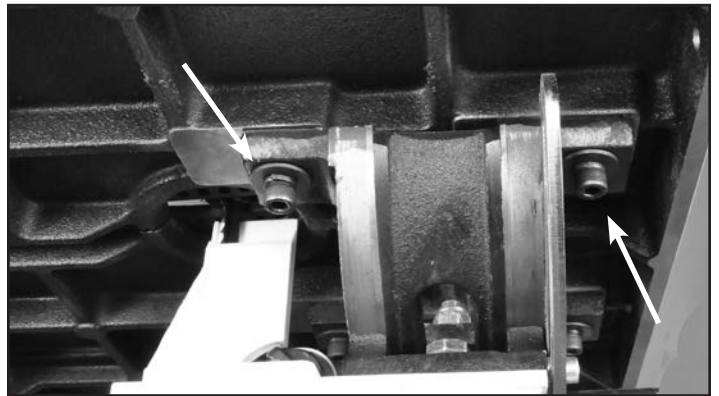
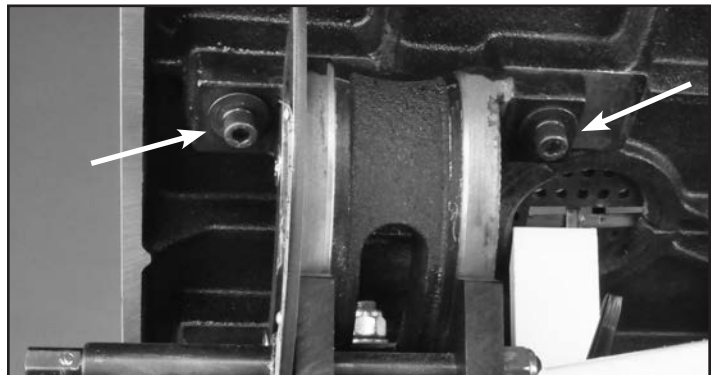

FIGURE 2
FIGURE 3
3. Attach the table to the trunnion with the four Hex Socket Cap Screws, Spring Washers and Washers (Parts #12B, 11B, 10B). Install two bolts to the right of the blade, hand tightened only. Fig. 2. Then tip the table to 45 degrees and install the two bolts to the left of the blade. Fig. 3. DO NOT fully tighten the bolts at this time. Return the table to the horizontal position.
5. Install the 90° table stop. Thread the Hex Screw (8B) and Nut (7B) to the bottom of the table in the pre-bored and tapped hole. Fig. 3. Setting the table to 90° to the blade will be done later on pages 13 and 14.